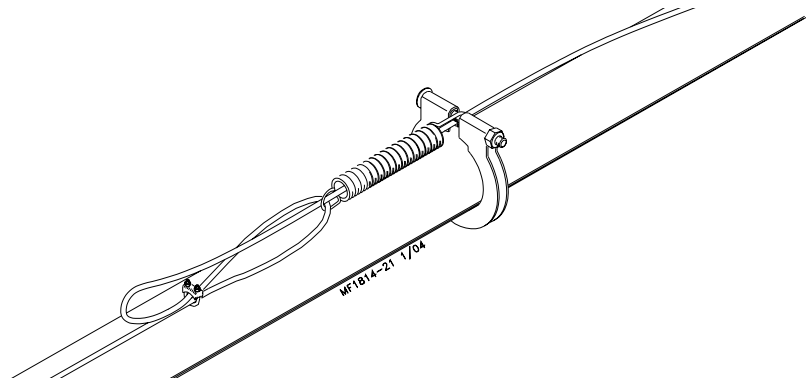

Figure 45. Hopper End Spring Installation
6. There is not enough room between the feed hopper and the first feeder pan to attach and stretch the spring. Install the spring in between the first and second pan after the hopper. Then route the cable back to the first pan and attach to the feed tube cable assemblies, see figure 45.